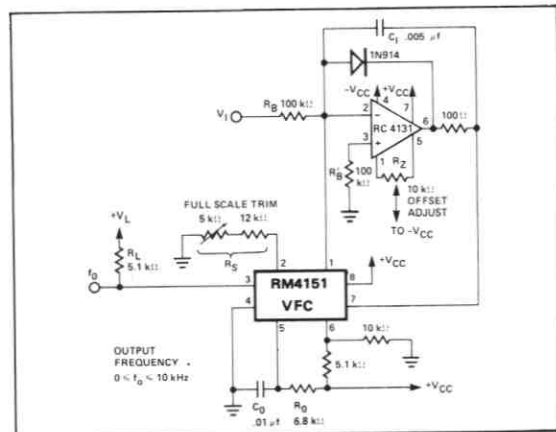

Figure 5. Precision Voltage-to-Frequency Converter
In this application (Figure 5) the 4151 VFC is used with an operational amplifier integrator to provide typical linearity of 0.05% over the range of 0 to -10V. Offset is adjustable to zero. Unlike many VFC designs which lose linearity below 10mV, this circuit retains linearity over the full range of input voltage, all the way to 0V.
1. Set $R_S = 14k\Omega$ or use a 12k resistor and 5k pot as shown in the figures. (The only exception to this is Figure 5.)
b) For the precision mode circuit of Figure 5, set $R_B = \frac{V_{IO}}{100\mu A}$ where V_{IO} is the full scale input voltage. Alternately the op-amp inverting input (summing node) can be used as a current input with full scale input current $I_{IO} = -100\mu A$.
- I. Design a precision VFC (from Figure 5) with $f_o = 100kHz$ and $V_{IO} = -10V$.